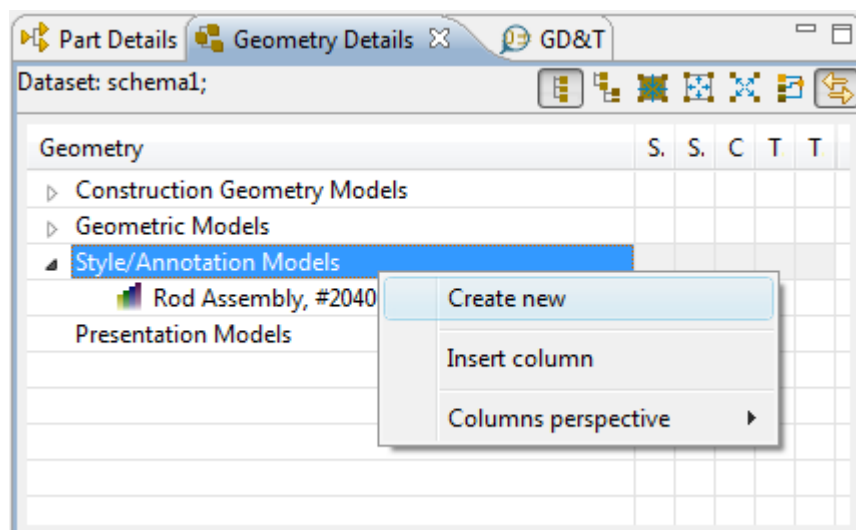

Figure 3. Geometry Details view, Create new menu item
- Select the **Create new** menu item in the appeared context sensitive menu (see Figure 3).